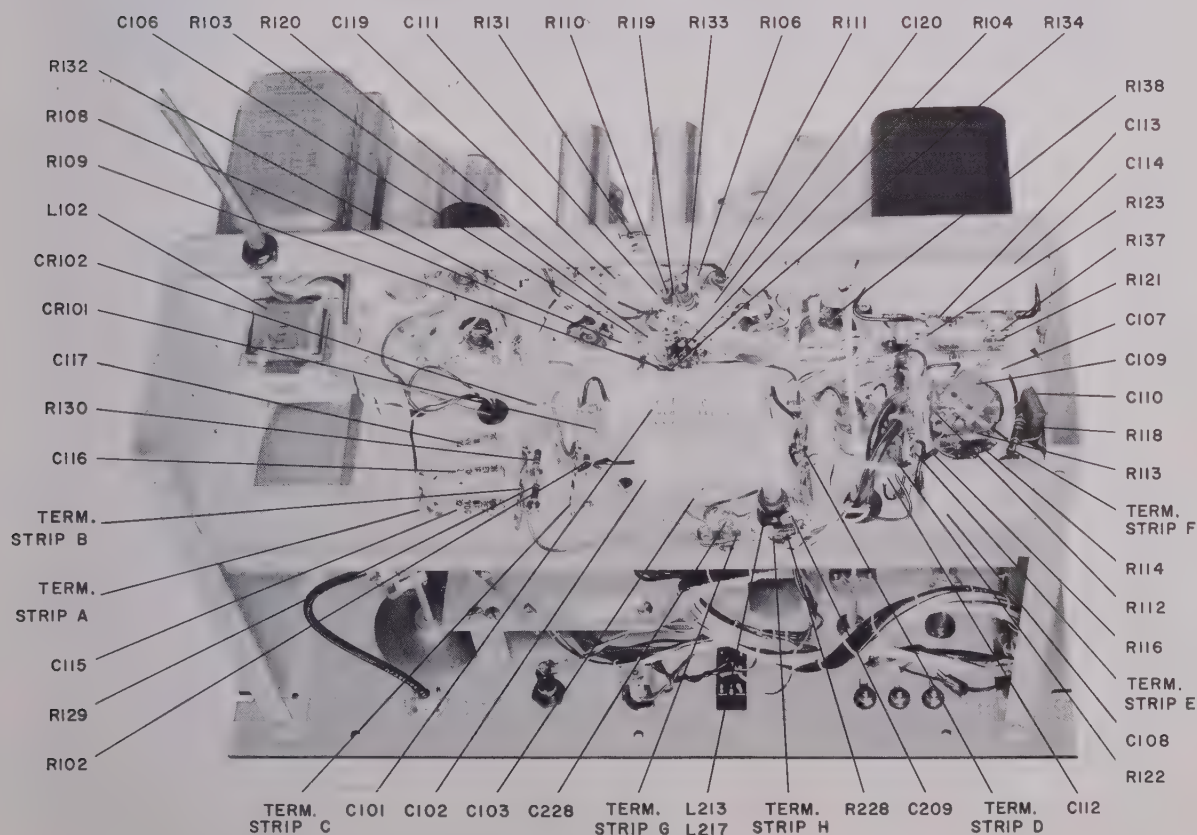

Figure 9. Type 225-A — Audio and Power Supply Chassis
Connect a VOM in series with pin 2 of V105 and a Variac between the signal generator and the power source. With the Variac set for 100 volts, the current through V105, as read on the VOM should be greater than 10 milliamperes. Adjust the Variac for 130 volts and observe the VOM reading. The current through V105 should be less than 40 milliamperes. Adjust by means of slide resistor R132 (Figure 9).
With the AM SELECTOR on the 225-A set to OFF, connect a dc voltmeter across capacitor C102 (Figure 9). The voltmeter should indicate zero. Adjust by
4. If the output frequency is out of specification tolerance for any dial setting, adjust C205 and C230 (Figure 9).
2. TERMINAL BOARD LETTER DESIGNATIONS CORRESPOND TO LETTERS ASSIGNED ON FIG. 9.